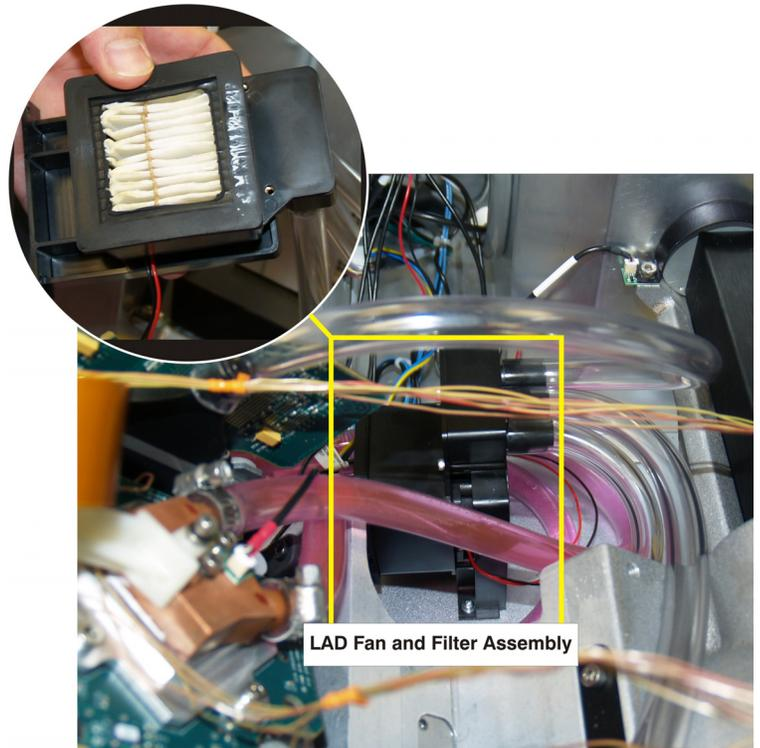

FIGURE 1-32 REMOVE LAD FILTER
2. Pull the LAD filter out. (Figure 1-32)